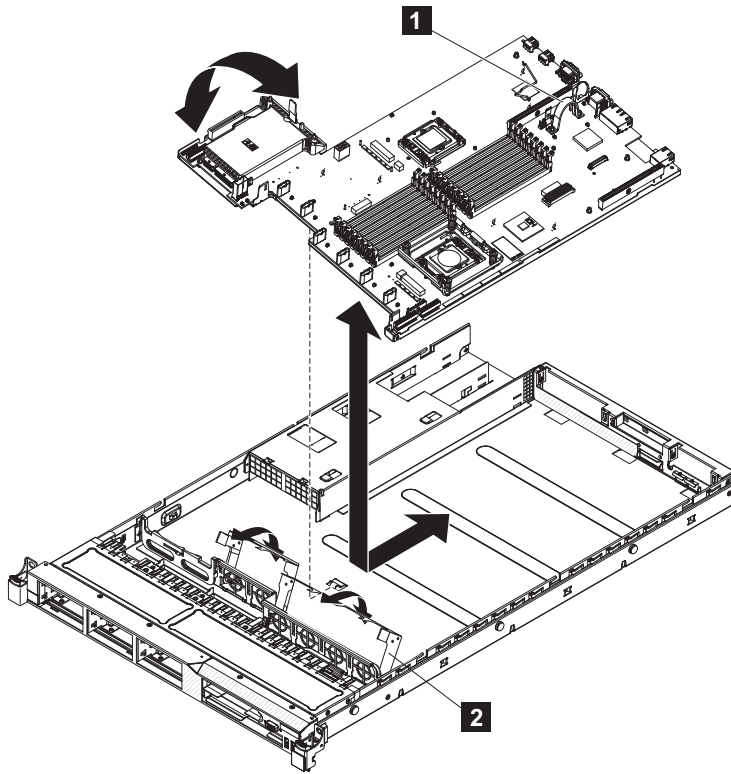

Figure 319. Removing and replacing the SAN Volume Controller 2145-CG8 or 2145-CF8 system board
18. Grasp the system board handle (**1** in Figure 319 on page 383) and slide the system board away from the back of the node. Lift the side of the system board that is nearer to the power supply units slightly so that it disengages from the locator pin; then, slide the system board slightly toward the left of the node, as shown in Figure 319 on page 383.